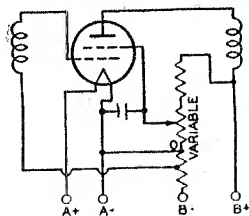

Fig. 118—Tetrode circuit in which screen-grid voltage is obtained from a potentiometer.
may be obtained from a tap on a voltage divider, from a potentiometer, or from a series resistor connected to a high-voltage source, depending on the particular tube type and its application. The screen-grid voltage for tetrodes should be obtained from a voltage divider or a potentiometer rather than through a series resistor from a high-voltage source because of the characteristic screen-grid current variations of tetrodes. Fig. 118 shows a tetrode with its screen-grid voltage obtained from a potentiometer.
**Screen-grid voltage variation** for the rf amplifier stages has sometimes been used for volume control in older-type receivers. Reduced screen-grid voltage decreases the transconductance of the tube and results in reduced gain per stage. The voltage variation is obtained by means of a potentiometer shunted across the screen-grid voltage supply. (See Fig. 118.) When the screen-grid voltage is varied, it must never exceed the rating of the tube. This requirement can be met by providing a fixed stop on the potentiometer.